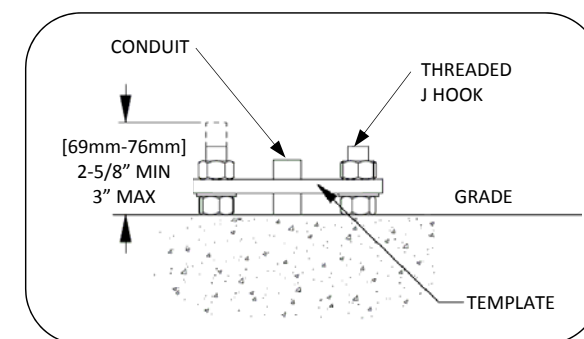

Fig. 3 – Anchor install detail 6in dia pole
2. Install anchor hooks, hex nuts, washers and wooden template as shown in Fig. 3. Level template in all directions. **Note:** template thickness is less than base plate thickness. Dimensions given account for the difference.